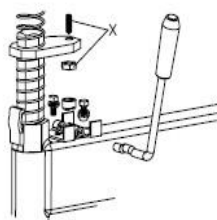

Fig12
Note: If Hexagonal Vertical Arm not be locked or not meet the requirement that 2-3mm from the bottom of Mounting/demounting head to rim, please adjust Hexagonal Locking Plate, refer to Fig 12 and adjust the (X).